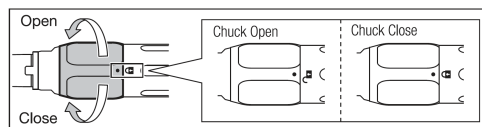

Fig. 2
1. Turn the Bur Locking Ring towards the  mark until a "click" is heard.(Fig. 2)
2. Insert the bur fully into the chuck and then turn the Bur Locking Ring towards the  mark until a "click" is heard (Fig. 2).